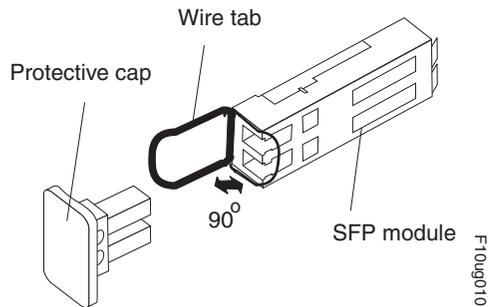

Figure 3. Unlocking the SFP module latch - wire variety
- For SFP modules that contain wire tabs, unlock the SFP module latch by pulling the wire latch outward 90°, as shown in Figure 3 on page 5.